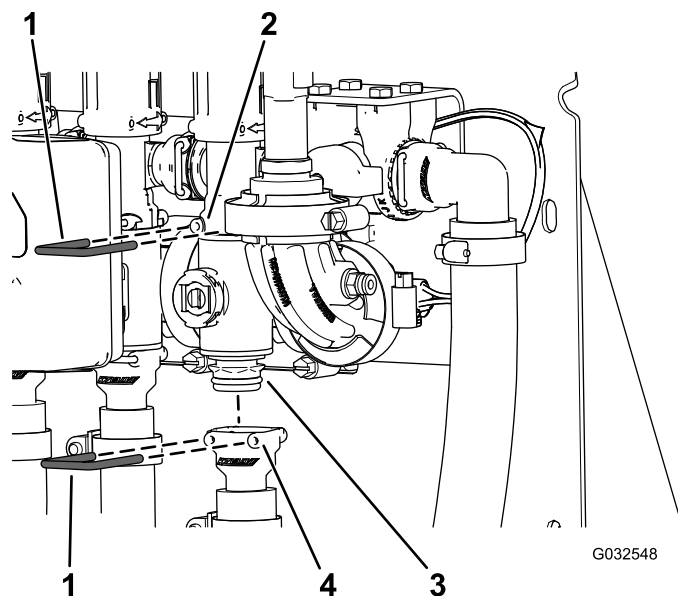

Figure 109
2. Remove the retainer that secures the section-valve manifold to the bypass fitting (Figure 109).